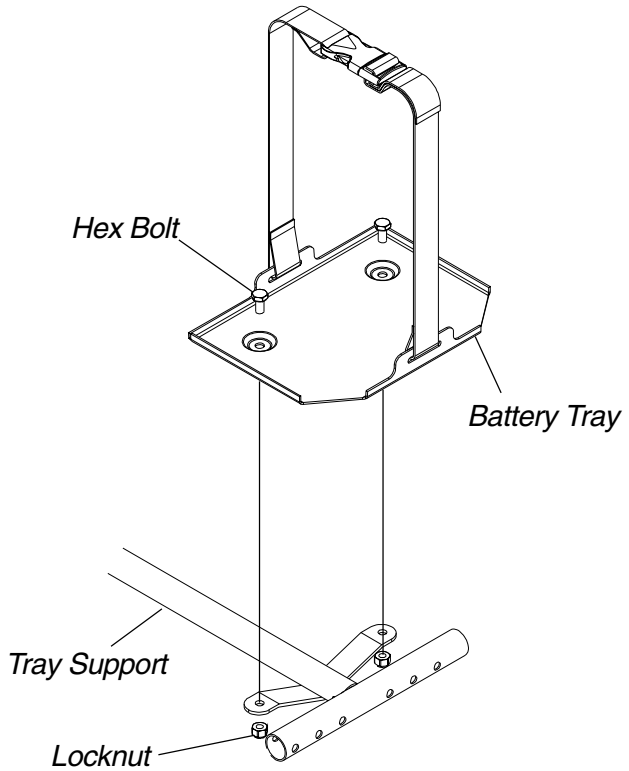

FIGURE 2 - REPLACING BATTERY BOX RETAINING STRAP - FWD WHEELCHAIRS
2. Remove the two (2) hex bolts and locknut that secure the existing battery tray to the tray support.
4. Position the new battery tray on the tray support as shown in **FIGURE 2**.
5. Secure the new battery tray to the tray support with the two (2) hex bolts and locknuts. Tighten securely.